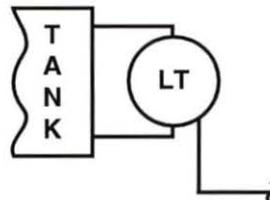

Figure 43. Level Sensing Element Symbol
7. Determine which type of level sensing element symbol is shown in figure 43.